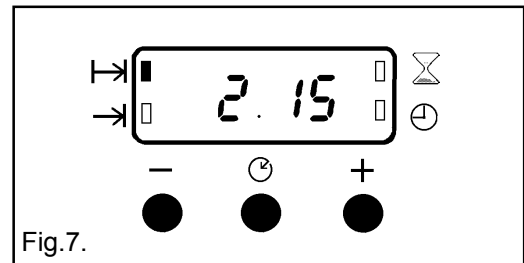

Fig.7.
- iii) To set the length of cooking time, press the Selector Control button (⌚) until the 'Cook Time' indicator is illuminated (⏰). Press the increase control (+) until the required length of cooking time is displayed, e.g. 2 hrs 15 mins as Fig. 7. If necessary depress the decrease control (-) until the correct time interval is achieved.